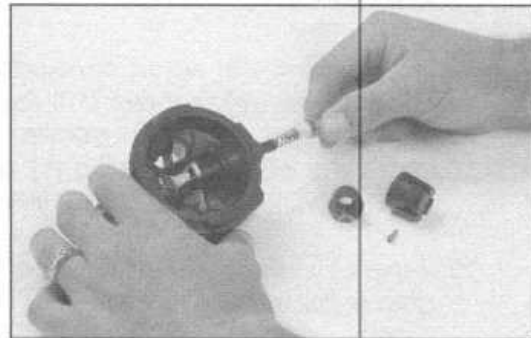

FIG 6-3
5. Inspect the valve mechanism inside the regulator case (27). Look for sand, salt deposits, debris or other signs of poor maintenance. Actuate the demand lever (17) and the piston (28) several times to determine freedom of movement. Turn the adjustment knob (35) out completely until resistance is felt. Again actuate the demand lever to confirm easier movement than with the adjustment knob turned all the way in. Record your findings and proceed with the next step.
6. Turn the adjustment knob (35) all the way out (counter-clockwise as you view it) to unload the valve mechanism. Remove the hex head screw (3) from the adjustment knob using a 3/32" allen wrench. Remove the adjustment knob from the stem (31) and inspect the stem and the inside of the adjustment knob for corrosion or debris. Record your findings and proceed with the next step.
7. Remove the packing nut (34) using a 13/16" open end wrench and turning counter-clockwise. You will find the thrust washer (33) either inside the packing nut or on the stem (31). Inspect the thrust washer for signs of unusual wear or distortion and RECORD FOR REPLACEMENT if needed.
8. Carefully grasp the stem (31) between thumb and forefinger and gently pull this assembly out of the adjustment tube (25). Should you find this difficult, thread the hex screw (3) into the stem allowing a better grip. The secondary spring (29) and piston (28) can now fall out freely through the outer end of the adjustment tube. It may be necessary to press the piston through, using a blunt probe from the inner end. The piston spring follower (30) will remain threaded onto the stem.
9. Inspect the stem (31) for corrosion or debris in the thread and the groove containing the stem o-ring (32). Unthread the piston spring follower (30) remembering that it is a left hand thread. Check to make sure the threads of the piston spring follower are not stripped or damaged due to excessive turning force on the adjustment knob. Inspecting both the piston spring follower and the stem o-ring, record your findings and RECORD FOR REPLACEMENT if needed. Refer to figure 6-3.